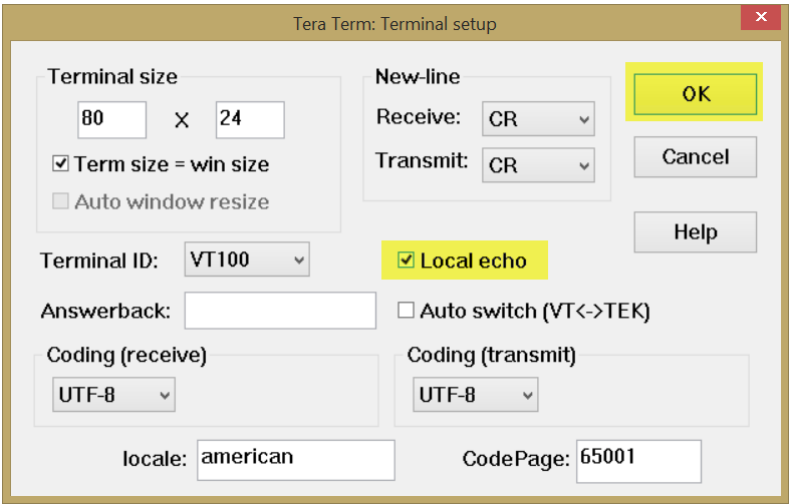

FIGURE E-3. Terminal Configuration
3. Select **Terminal** from the drop-down menu list in **Setup**. The SR50AT/T does not echo characters sent to it. To see what you're typing, **Local Echo** needs to be switched on by checking the box next to **Local Echo** (FIGURE E-3). Leave everything else at the default settings. Click on the **OK** button to save the settings or the **Cancel** button to simply exit.